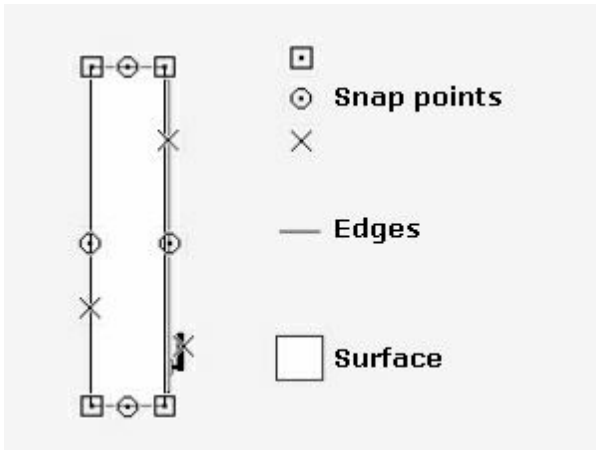
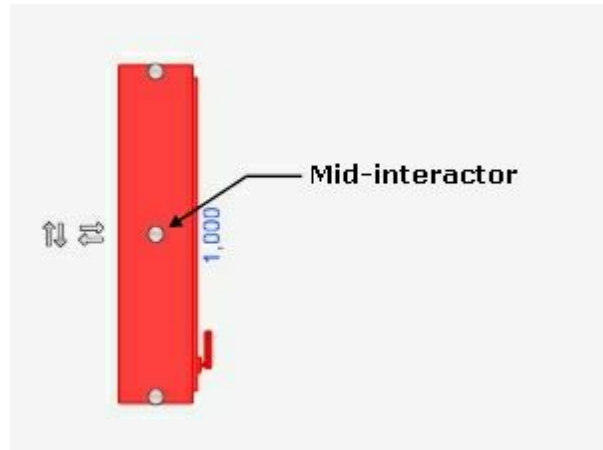

Figure 6
Figure 7
Doors, windows and wall openings can be **moved manually** by **clicking and dragging them** to a new position. **Click** on surfaces, edges, snap points (**Figure 6**), or mid-interactors (**Figure 7**).
3. Figure 6 only shows a random selection of snap points for simplification.